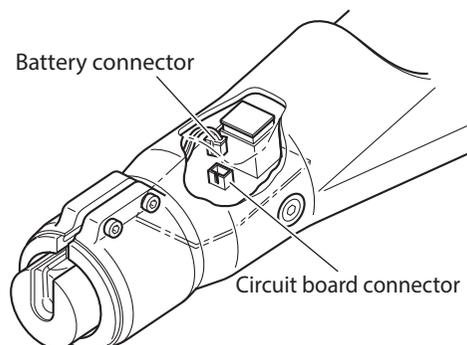

Fig. 21 Removing the Battery Connector
- 1 Remove the battery connector from the circuit board (Fig. 21).
- 9 Insert the battery connector into the circuit board connector (Fig. 21).